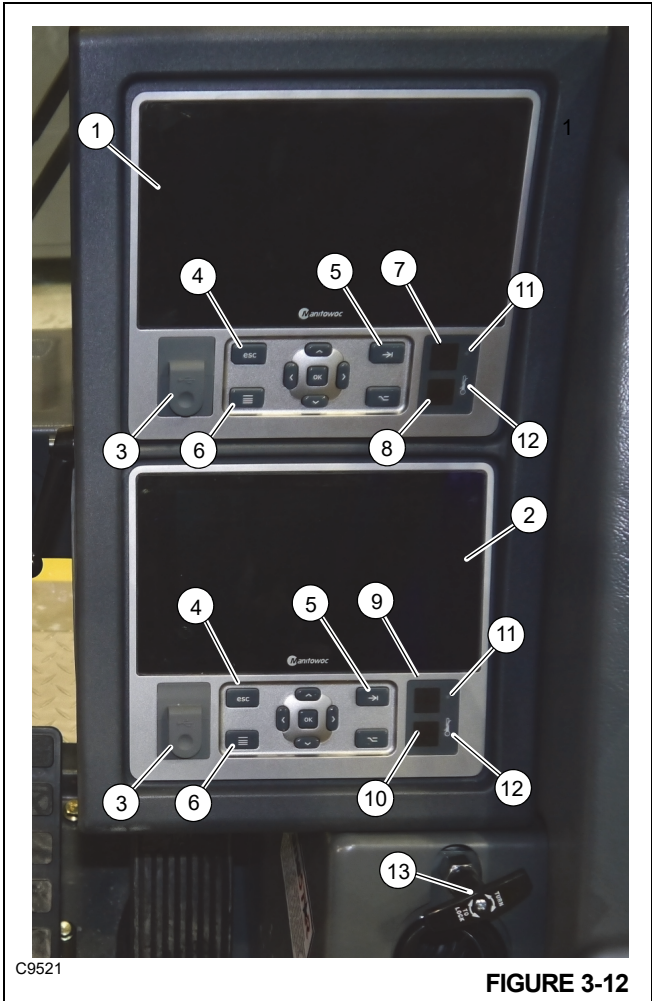

FIGURE 3-12
The Turntable Swing Lock Pin Control Handle (13) (Figure 3-12) is located beside the front console on the right side of the cab. When control handle is pushed down and superstructure is directly over front of carrier, the swing lock pin drops into the socket on the carrier frame, locking superstructure in place. When control handle is pulled up, the pin is pulled out of the socket, unlocking superstructure.